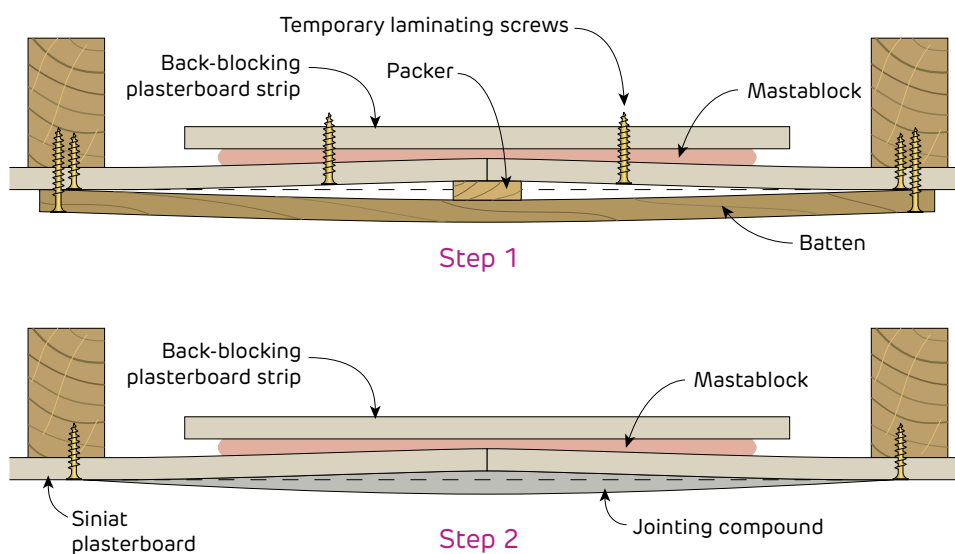

FIGURE 64 Creating a Recess on a Wall Butt Joint using a Temporary Packer
- > Wall butt joints need support for the back-blocking strips as shown in Figure 64